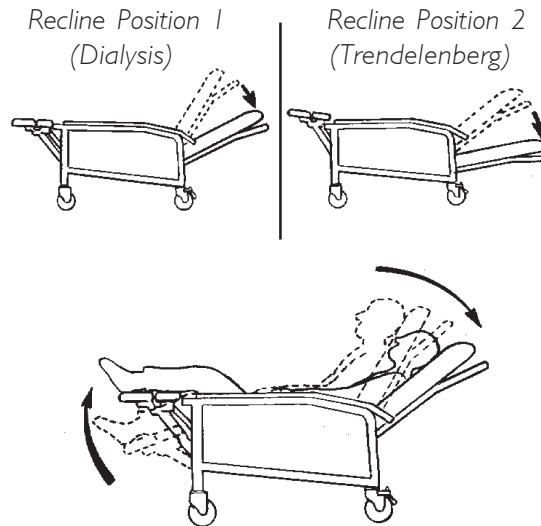

FIGURE 3 - RECLINING THE CHAIR - MODEL 6908A
RECLINING THE CHAIR - MODEL 6908A (FIGURE 3)
The Model No. 6908A - Clinical Recliner has two (2) standard recline positions as shown in FIGURE 3.
2. To achieve (dialysis) position, place the chair in recline position 1. Grasp push handle and recline lever and slowly recline back to position shown in FIGURE 3 and release recline lever.